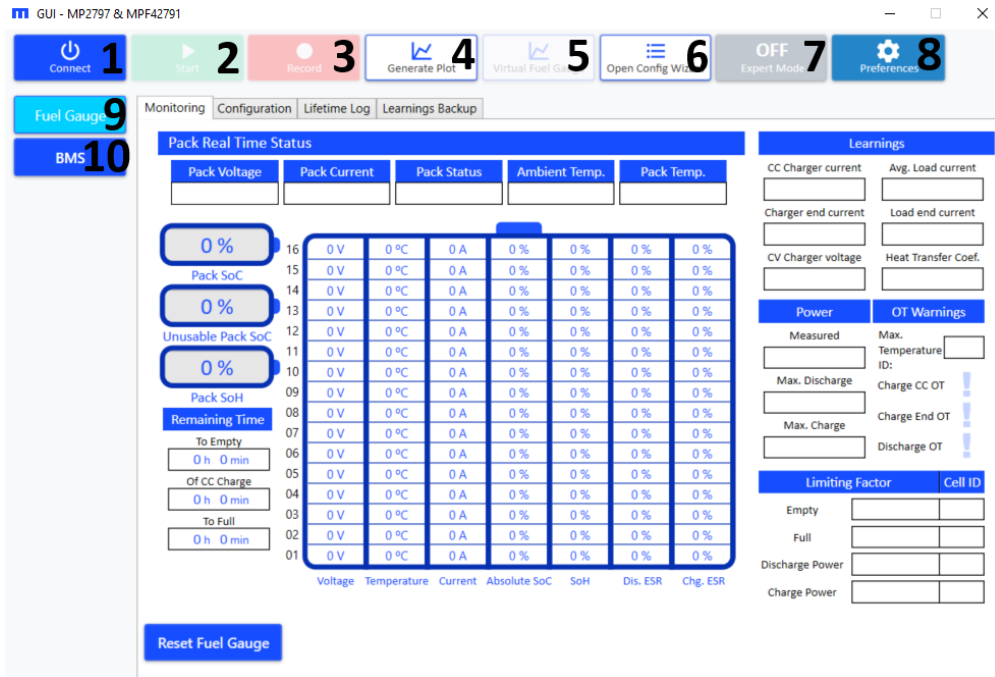
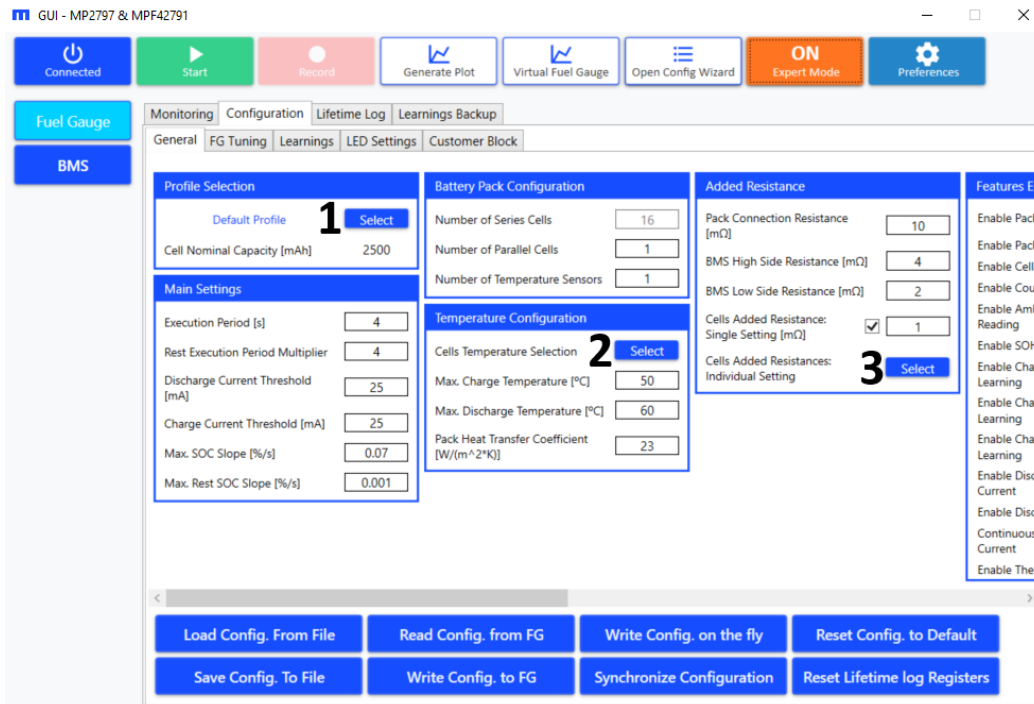

Figure 28: GUI Main Window
Figure 38: Fuel Gauge Configuration – Expert Mode
4. The main window should appear (see Figure 28 on page 24).
- Click “Connect” in the upper bar (denoted as “1” in Figure 28). A window with a drop-down menu should appear.
1. Click “Preferences” (denoted as “8” in Figure 28 on page 24). The Preference window should open.
6. Click “Open Config Wizard” (denoted as “6” in Figure 28 on page 24).
1. Select “Fuel Gauge” (denoted as “9” in Figure 28 on page 24).
3. To see the full set of registers to fine-tune the fuel gauge, select “Expert Mode” (denoted as “7” in Figure 28 on page 24). The full set of configuration registers should be displayed, as well as two extra sub-tabs: Learnings and Customer Block (see Figure 38). Figure 38 shows three “Select” buttons, discussed in greater detail below.
1. Click “BMS” (denoted as “10” in Figure 28 on page 24).
1. Click “Fuel Gauge” (denoted as “9” in Figure 28 on page 24).